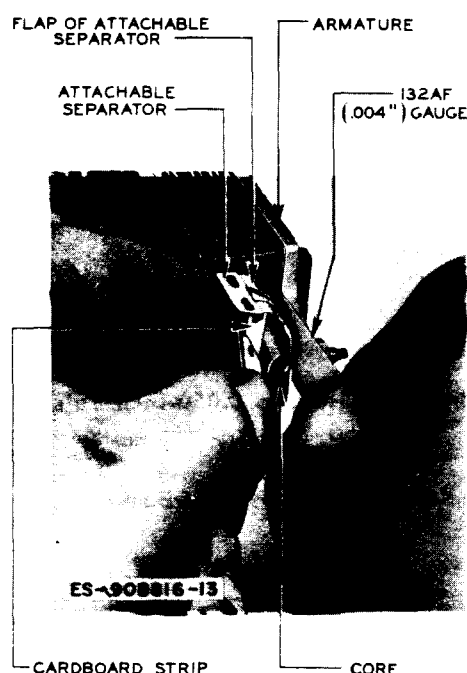

Fig. 13—Method of Applying Attachable Separator on Core
- (2) Insert the 132AF (0.004 inch) gauge into the armature gap as shown in Fig. 13 to guide the flap of the attachable separator into position. This is done to prevent the flap of the separator from snagging on the stop discs. Hold the cardboard strip of separators in the left hand with the flap of the first separator towards the core of the relay and the free edge of the flap downward. Straighten the right-hand end of the strip. Using the index finger of the left hand, slide the first separator approximately 1/8 inch over the end of the strip and insert the free edge of the flap between the gauge and the core. Take care that the flap is entirely behind the adjusting stud, and that the front and rear corners of the flap enter the armature gap at the same time. Slide the flap into position and, while holding the separator in place with the index finger of the left hand as shown in Fig. 13, withdraw the strip. Turn the metal clip in a counterclockwise direction until the ears are in a vertical position. Snap the metal clip over the core so the ears rest against the step on the core, and then remove the gauge. Proceed as covered in (4).
Fig. 13, withdraw the strip. Turn the metal clip in a counterclockwise direction until the side of the metal clip having the stamped designation (thickness of separator) is in the vertical position. Snap the metal clip over the core, and then proceed as covered in (4).
(4) With the separator in place, make sure that the edges of the window of the flap do not touch the stop discs and that there are no wrinkles or snags in the flap. If there are wrinkles or snags, remove the separator as covered in (1) and replace it.